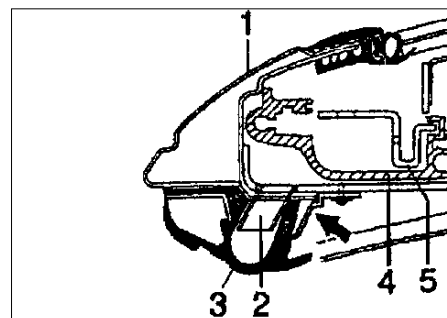

Figure 5
- The holding bracket (part number 993 562 571 00) must be service installed since it was not done in production. This bracket should be installed as shown (arrow figure 5) to a 3 mm hole drilled into the roof frame.